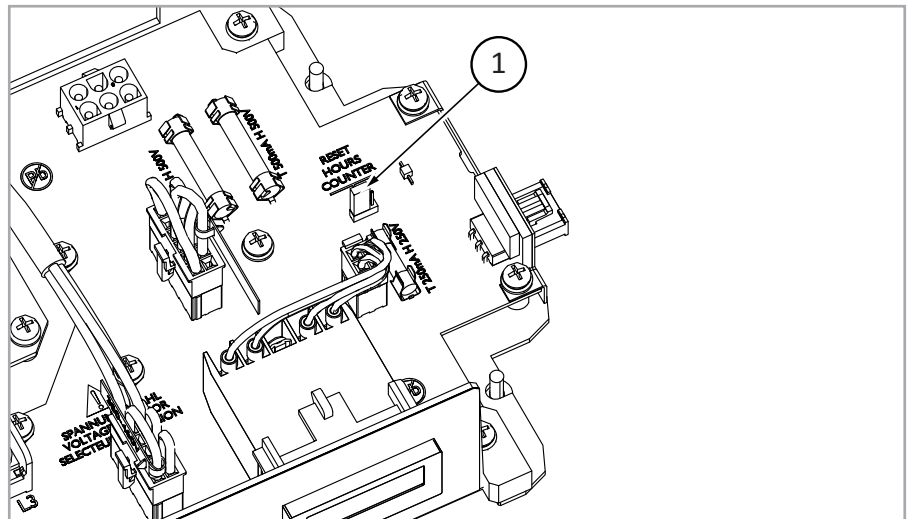

Figure 17 Hours counter reset
- 4 On the printed circuit board of the electric terminal box there is a three pin reset connector/jumper – “RESET HOURS COUNTER” (Item 1, figure 17). Move the jumper to the reset pins – following the symbol on the board.